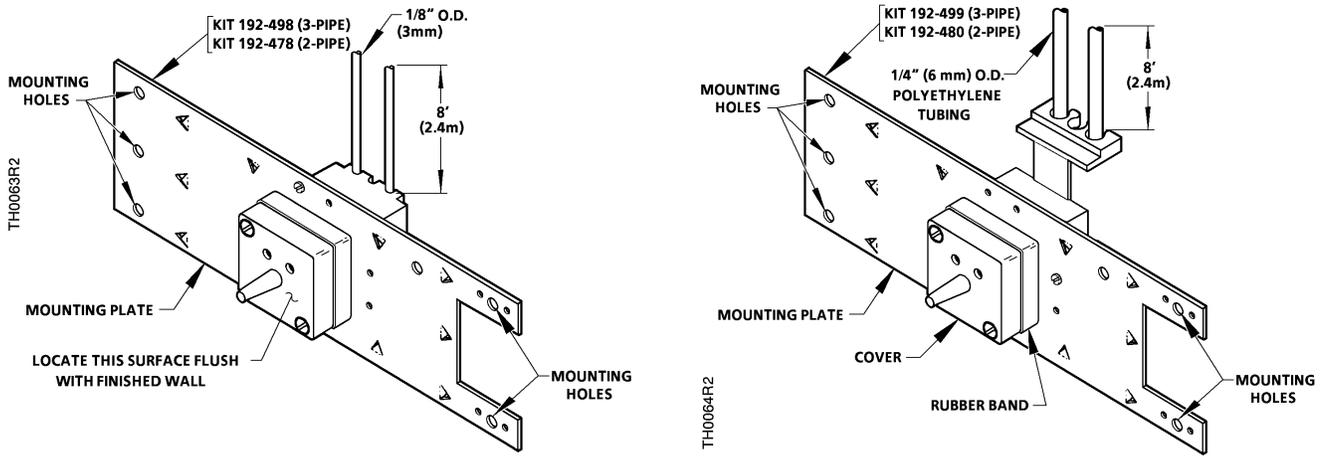

Figure 2. In Plaster Walls Use Wall Box Kits No. 192-478, 192-498, 192-480, or 192-499.
- Plaster Walls, See Figure 2.